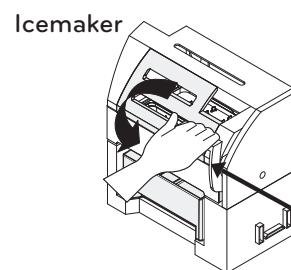
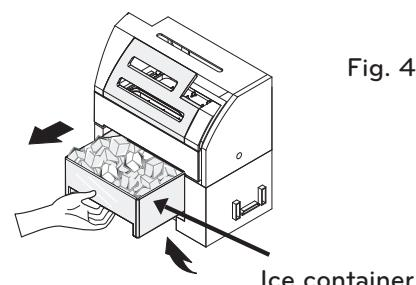

Fig. 3
Fig. 4
- To remove ice cubes, carefully pull the drawer lever Fig. 3. The ice cubes will fall into the ice container Fig. 4.